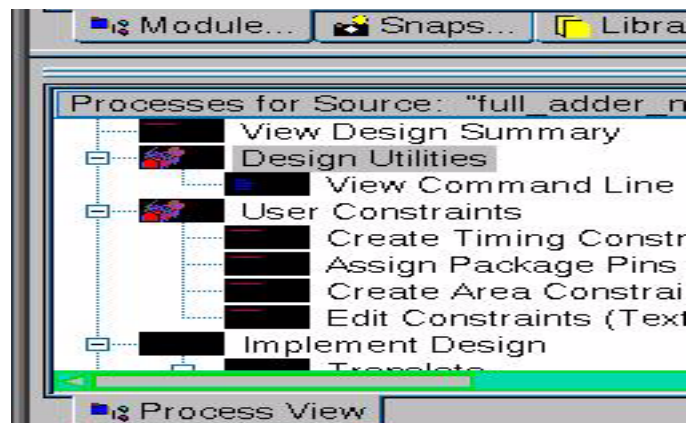

Figure 27: Process including Implement Design.
(8) Select the `full_adder_negated.edf` file (the file listed beneath `xc2vp30-7ff896`). You will now note that the **Processes for Source: “xc2vp30-7ff896”** have changed to include the “Implement Design” as shown in Figure 27.